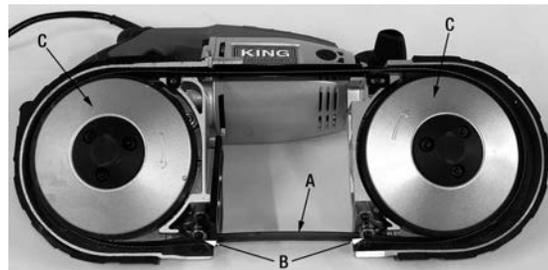

FIGURE 5
2. Set the frame of the Bandsaw down as shown in Fig.5 so that the edge of the used blade (A) Fig.5 is pointing towards you. Be careful, once the blade tension is released, the blade may spring out quickly.
3. Slide the old blade (A) out of the both blade guides (B) and then off both wheels (C).